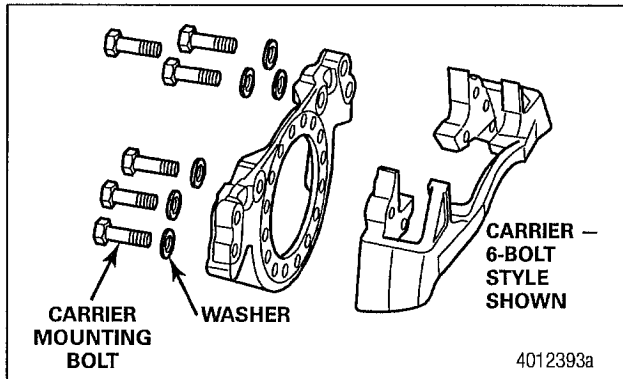

Figure 6
- **For Meritor EX+ air disc brakes:** Use a 30 mm-size socket to tighten the carrier mounting bolts to 400 lb-ft (542 N•m). Use the special torque adapter, part number 3256B1354, where needed for access to the mounting bolts. When using the special torque adapter, use the settings shown in Table B for torque compensation. Figure 6.